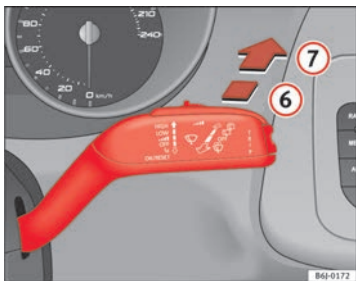

Fig. 61 Windscreen wiper and windscreen wash lever: rear window wiper
- Press the lever forwards to position **6** ⇒ fig. 61. The wiper will wipe the window approximately every 6 seconds.
- Press the lever fully forwards to position **7** ⇒ fig. 61. The rear wiper and washer operate at the same time. The windscreen wash system will function as long as you hold the lever in this position.